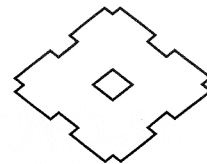

Fig. B-19
3. Remove the through bolts from the motor flange, ring gear housing, and lift the slow speed side, thus separating the unit into two parts so that the inner mechanism can be removed (Fig. B-19 ~ B-24).
5. To lift the slow speed side, attach an eyebolt to the tapped hole on the end of the slow speed shaft and use a hoist or chain block (Fig. B-19).
9. Put the slow speed shaft pins into the rollers (Fig. B-19). The above instructions are for **eccentric bearings with retainer**. Following are the instructions suggested for **roller bearings without retainer**: